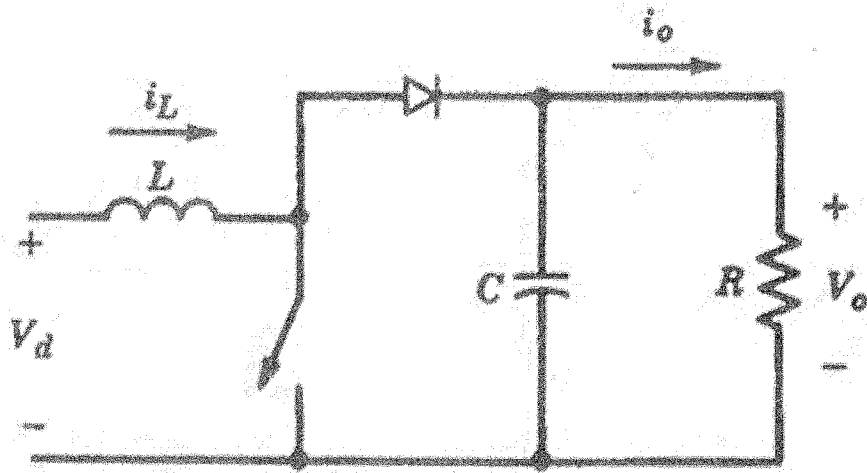

Figure Q2b
- c) A circuit diagram of a boost converter is shown in Figure Q2b.